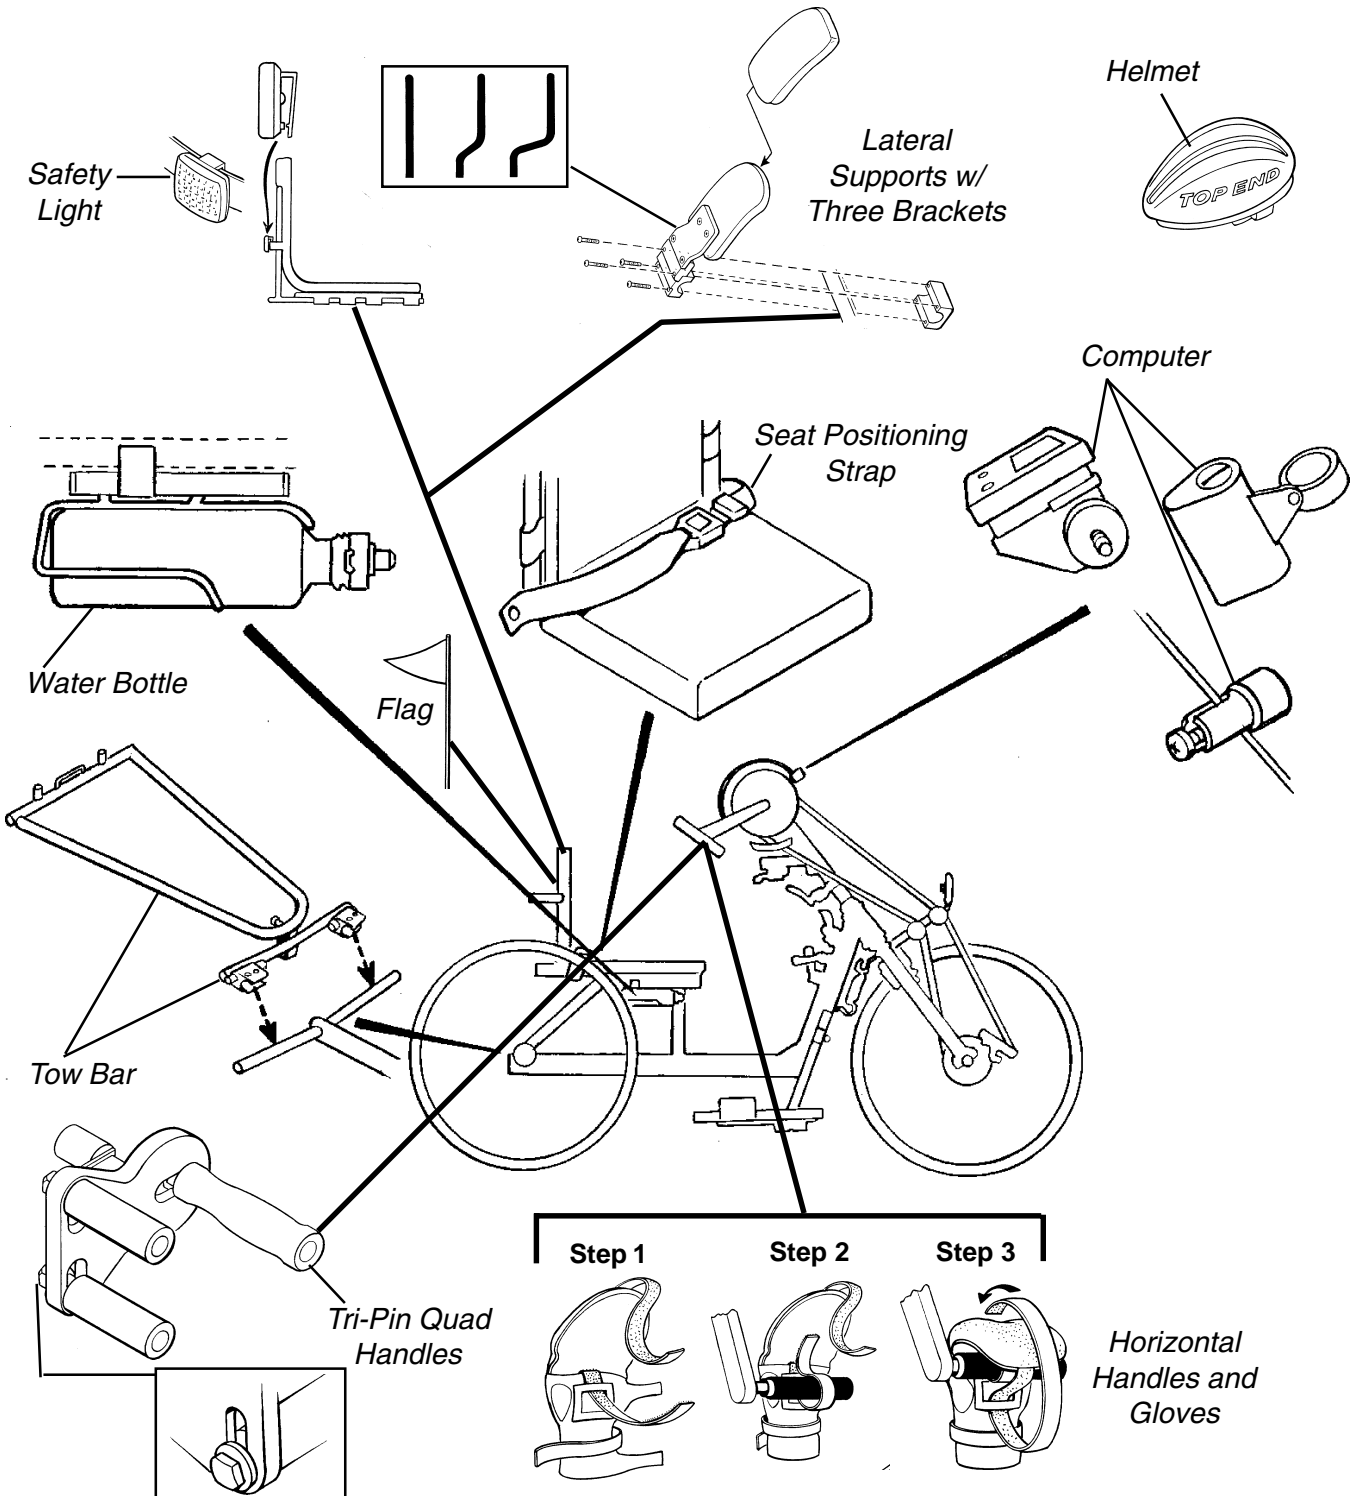

FIGURE 1 - INSTALLATION OF OPTIONS
COMPUTER INSTALLATION (FIGURE 1)
SEAT POSITIONING STRAP INSTALLATION (FIGURE 1)
HORIZONTAL HANDLES (FIGURE 1)
1. Remove existing handles and replace as shown in FIGURE 1.
TRI-PIN QUAD HANDLES (FIGURE 1)
GLOVES (FIGURE 1)
SAFETY FLAG INSTALLATION (FIGURE 1)
SAFETY HELMET (FIGURE 1)
LATERAL SUPPORT (FIGURE 1)